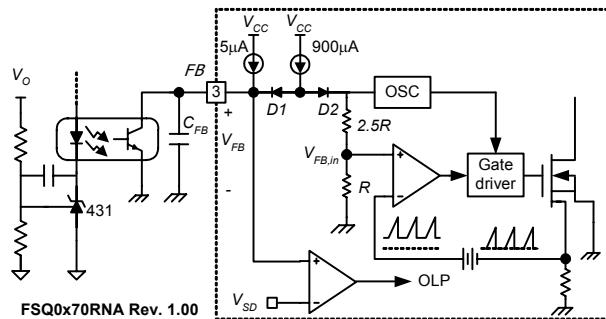

Figure 14. Pulse Width Modulation Circuit
**2. Feedback Control:** The 700V FPS series employs current-mode control, as shown in Figure 14. An opto-coupler (such as the H11A817A) and shunt regulator (such as the KA431) are typically used to implement the feedback network. Comparing the feedback voltage with the voltage across the  $R_{sense}$  resistor of SenseFET, plus an offset voltage, makes it possible to control the switching duty cycle. When the shunt regulator reference pin voltage exceeds the internal reference voltage of 2.5V, the opto-coupler LED current increases, the feedback voltage  $V_{FB}$  is pulled down and thereby reduces the duty cycle. This typically happens when the input voltage increases or the output load decreases.
**4.3 Over-Voltage Protection (OVP):** In the event of a malfunction in the secondary-side feedback circuit, or an open feedback loop caused by a soldering defect, the current through the opto-coupler transistor becomes almost zero (see Figure 14).  $V_{FB}$  climbs up in a similar manner to the overload situation, forcing the preset maximum current to be supplied to the SMPS until the overload protection is activated. Because excess energy is provided to the output, the output voltage may exceed the rated voltage before the overload protection is activated, resulting in the breakdown of the devices in the secondary side. To prevent this situation, an Over-Voltage Protection (OVP) circuit is employed. In general,  $V_{CC}$  is proportional to the output voltage and the FPS uses  $V_{CC}$  instead of directly monitoring the output voltage. If  $V_{CC}$  exceeds 19V, the OVP circuit is activated, resulting in termination of the switching operation. To avoid undesired activation of OVP during normal operation,  $V_{CC}$  should be designed to be below 19V.